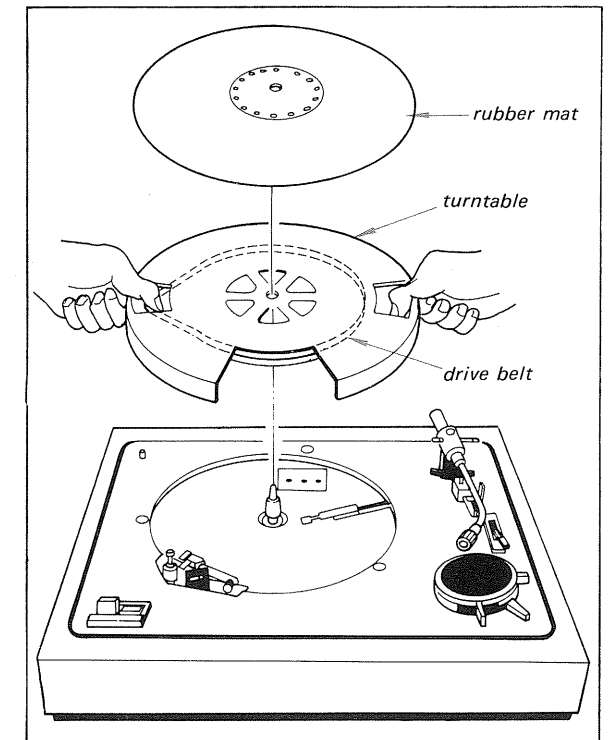

Fig. 2-2. Turntable removal
2. Insert both your thumbs into the two holes of the turntable, and hook the drive belt with left thumb as shown in Fig. 2-2.